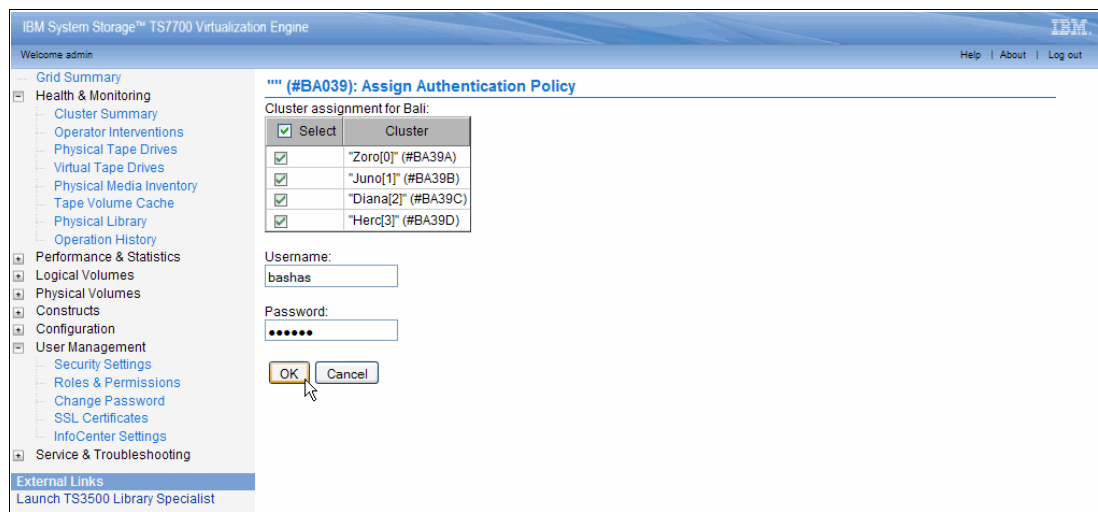

Figure 8-72 Cluster Assignment Selection for Storage Authentication Service Policy
9. Click **Go** to open the Assign Authentication Policy panel, shown in Figure 8-72.